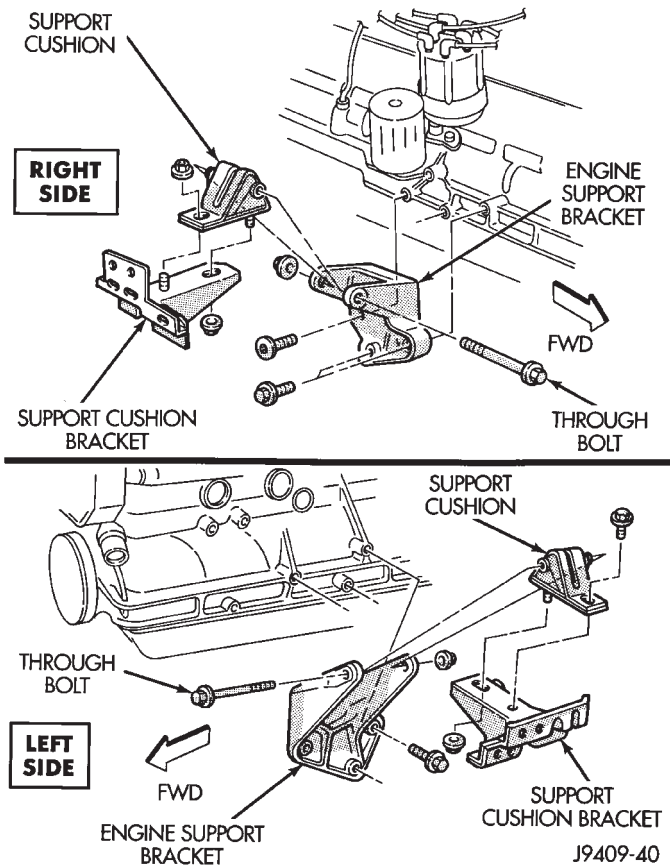

Fig. 6 Front Mounts—XJ Vehicles
- (1) Disconnect negative cable from battery.
- (2) Raise the vehicle.
- (3) Support the engine.
- (4) Remove the nut from the through bolt (Figs. 6 and 7). DO NOT remove the through bolt.
- (5) Remove the retaining bolts and nuts from the support cushions (Figs. 6 and 7).
- (6) Remove the through bolt.
- (7) Remove the support cushions.
(1) If the engine support bracket was removed, position the bracket onto the block and install the attaching bolts (Figs. 6 and 7). Tighten the engine support bracket bolts:
(3) Place the support cushion into position on the support cushion bracket (Figs. 6 and 7). Install and tighten the bolts and nuts:
(4) Install the through bolt and the retaining nut (Figs. 6 and 7). Tighten the through bolt nut: